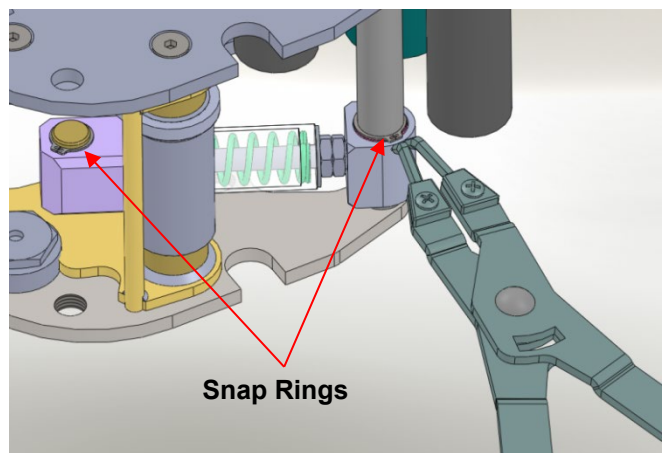

Figure 10-11
5. Reinsert retaining rings to their grooves. Should the 12 mm retaining ring brake (right one on Figure 10-11), the shaft needs to be freed to replace it. Calibrate spring pressure with the M6 nuts as described earlier.